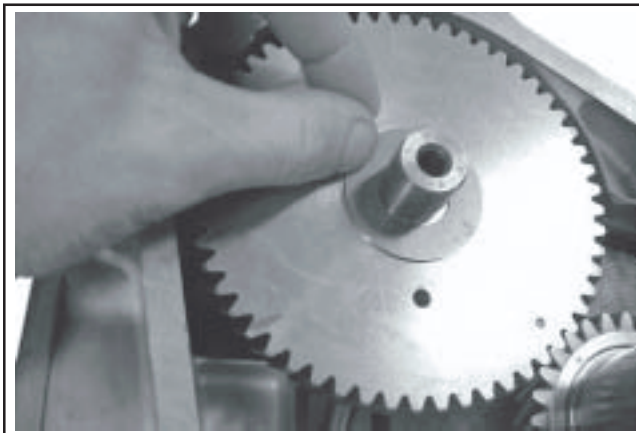

Figure 11-13. Adding Shim for Camshaft.
4. If the camshaft end play is not within the specified range, remove the original shim and reinstall the end play tool. Use a feeler gauge to determine the clearance between the camshaft and the tool. Subtract **0.100 mm (0.004 in)** from the measured clearance to obtain the required shim thickness. Refer to the table below and install the shim that matches the calculated thickness. See Figure 11-13. Repeat steps 1-3 to verify that the correct end play exists.